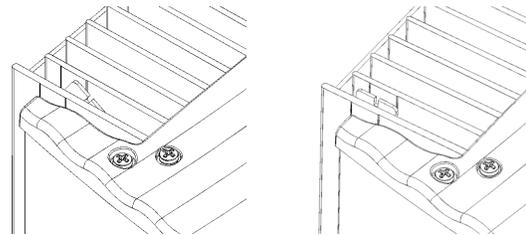

Figure 6.2: Safety catch open (left) and closed (right)
- Lock the safety catch. To do this, slide the upper end of the safety catch towards the wall until the groove runs parallel to the wall (see figure 6.2).